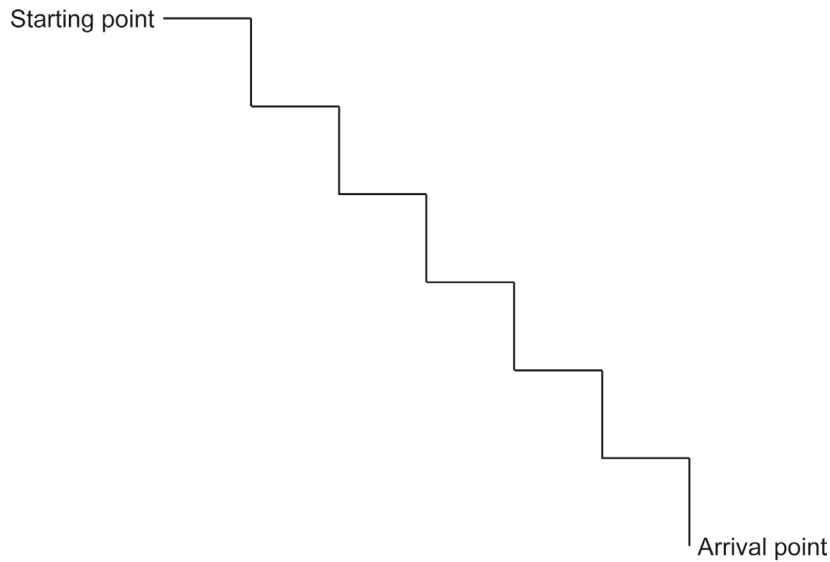

Figure 73 - Illustration of optimal trajectory for fine alignment
- ❑ Error estimations from the INS Kalman filter are improved when optimal trajectories are performed. The optimal trajectory to achieve fast fine alignment is “staircase” shaped, as illustrated in Figure 73, with a typical duration of 3 to 5 minutes for each step. Such a trajectory allows the Kalman filter to assess all sources of errors of the system, to correct them and to achieve optimal performances at the end of the fine alignment process.